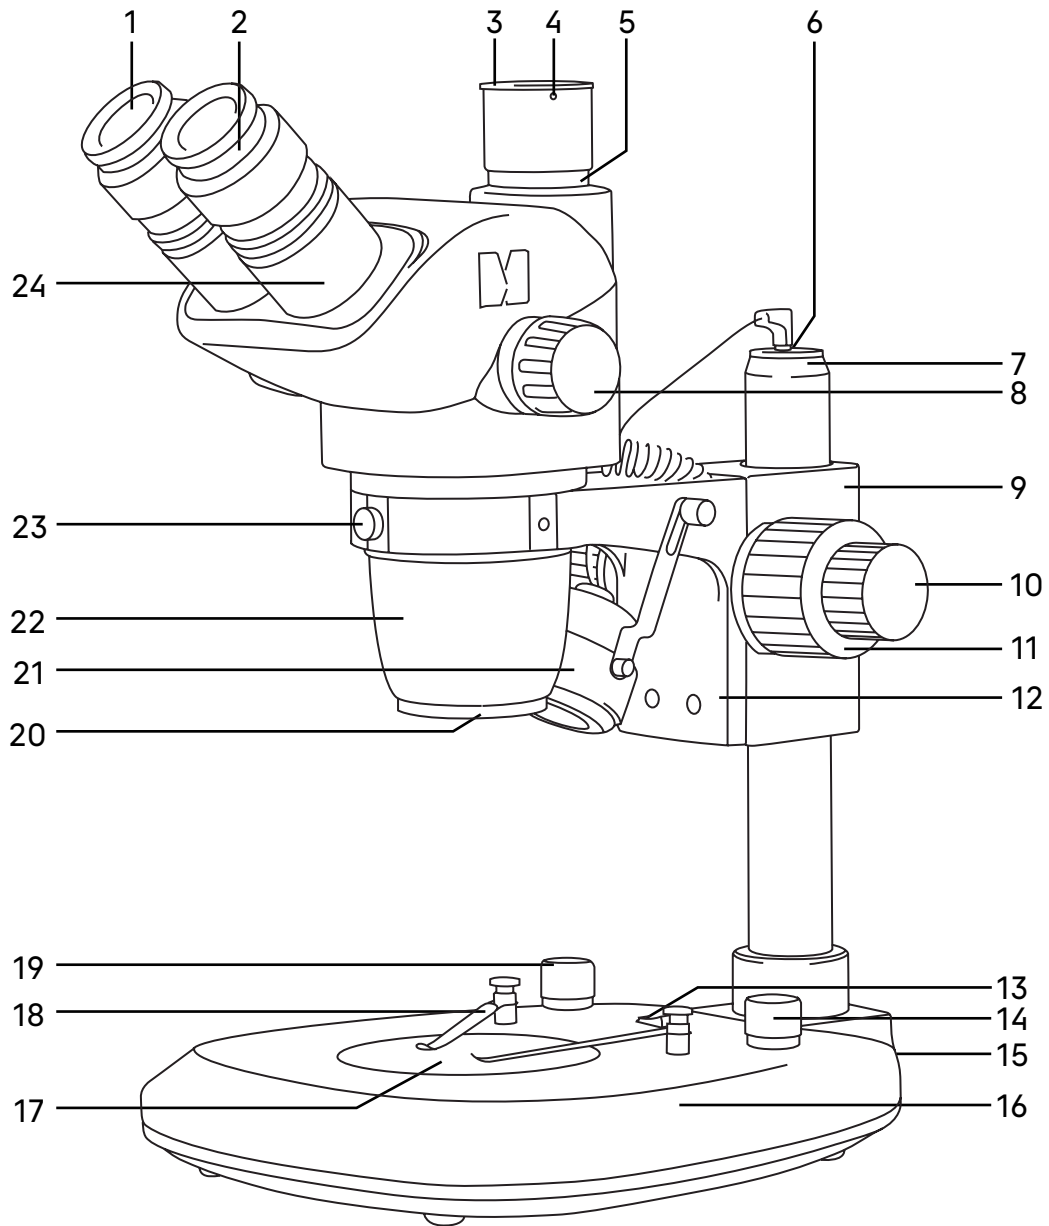

Fig. 1. MAGUS Stereo 8T Microscope
The general view of the microscope is given in Fig. 1.
The stand **7** (Fig.1) is mounted on the base **16** (Fig. 1). The stand is not removable.
Inside the stand is the focusing mechanism **12** (Fig. 1), on which the microscope head mount **9** (Fig. 1) is fixed.
On top of the stand is the reflected light illumination socket **6** (Fig. 1).
The base **16** (Fig. 1) houses a power supply unit and a transmitted light LED. The stage plate **17** (Fig. 1) provides light scattering and uniform illumination of the entire surface of the specimen. The switch **13** (Fig. 1) is used to switch the light source on and off.
The brightness of the reflected light illuminator is adjusted using the knob **19** (Fig. 1), transmitted light brightness – using the knob **14** (Fig. 1).
The base also serves as a stage. The specimen is placed on the stage plate **17** (Fig. 1). The stage plate is inserted in the base opening. The diameter of the plate is 95mm.
The specimen can be fixed on the plate by two holders **18** (Fig. 1).
The focusing mechanism **12** (Fig. 1) moves on the stand **7** (Fig. 1), bringing the specimen into focus in accordance with the specimen height and the working distance of the objective.
The microscope head mount **9** (Fig. 1) is secured on the focusing mechanism. The total vertical travel range is 45mm.
The microscope head is installed on top of the mount and secured by the fixing screw **23** (Fig. 1). The microscope head can be turned sideways in the mount and fixed in any desired position.
The eyepieces **1** (Fig. 1) are mounted in the eyepiece tubes **24** (Fig. 1) of the microscope head. The tubes are adjusted to the observer's interpupillary distance, ranging from 54 to 75 mm.
A 1x C-mount adapter is installed in the trinocular tube **5** (Fig. 1) to fix the camera (video eyepiece). The camera is used to transmit the image to a computer screen or monitor/TV.
The zoom objective lens **22** (Fig. 1) has 0.65–5.5x magnification and allows for smooth change of magnification up to 8.4 times with no loss of quality and maintaining a large working distance of 105mm.
The microscope magnification is changed by rotating the knob **8** (Fig. 1).
The 10x eyepieces have a linear field of view of 22mm (WF 10x/22). Each eyepiece has a diopter adjustment **2** (Fig. 1). The eyepiece tubes have a secure eyepiece mount design that prevents the eyepieces from accidentally falling out when the microscope is moved. The eyepieces are fixed in the tubes by screws.
The oblique illuminator **21** (Fig. 1) is fixed in the microscope head mount. The illuminator cord is plugged in the socket **6** (Fig. 1).
- Insert the stage plate **17** (Fig. 1). To observe transparent objects, use a glass plate. To observe opaque objects, use a black-and-white plate. To increase contrast, the white side of the plate is used for dark-colored objects, while the black side is for light-colored objects.
- Install the specimen holders **18** (Fig. 1).
- Install the microscope head in the ring of the mount **9** (Fig. 1). Secure the microscope head by the fixing screw **23** (Fig. 1). Do not overtighten the screw.
- Secure the microscope head mount **9** (Fig. 1) along with the focusing mechanism **12** (Fig. 1) on the stand **7** at the desired height using the locking screw on the back of the microscope.
- Set the brightness adjustment knobs **14** and **19** (Fig. 1) to the minimum position.
Set the minimum magnification of the 0.65x objective by rotating the zoom knob **8** (Fig. 1). The zoom knobs are on both sides of the microscope head.
Use the eyepiece diopter adjustment to compensate for the observer's ametropia. Start by setting the diopter adjustment on both eyepieces to the zero. To do this, rotate the ring **2** (Fig. 1) to adjust "0" to the indicator "." on the eyepiece body.
Screw the required objective lens 22 (Fig. 1) into the thread of the objective part. The 0.5x reducing objective lens increases the working distance and field of view.